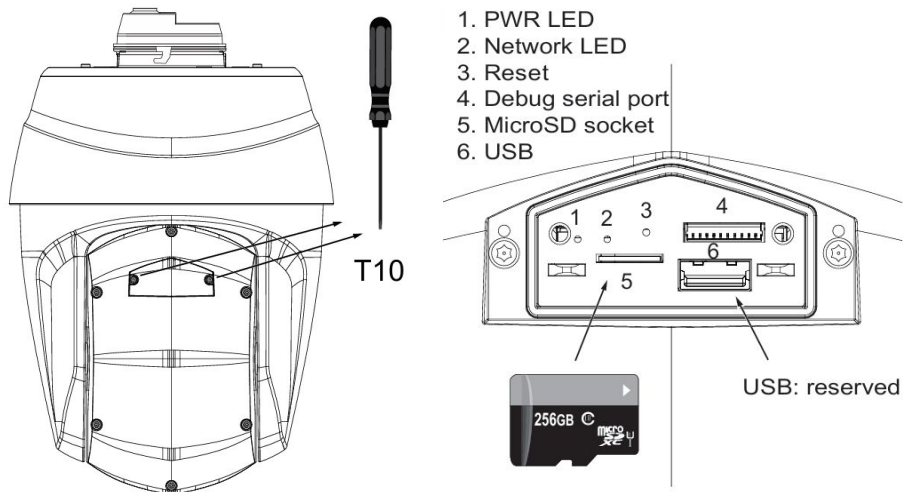

Figure 1-8
Step 7 Tighten the three T25 screws, then remove the dome cover protective film. See Figure 1-8.
Step 1 Remove cover plate to gain access to service panel. Please refer Figure 1-8 for SD card slot and reset location.